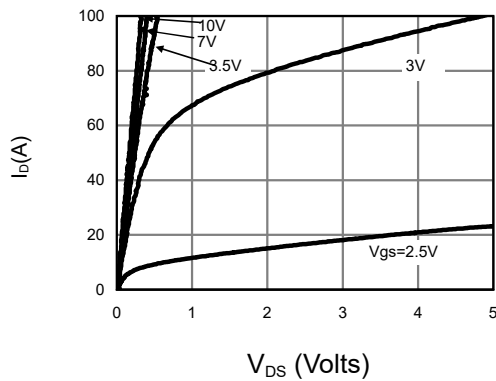

Fig 1: On-Region Characteristics (Note E)
- E. The static characteristics in Figures 1 to 6 are obtained using $<300\mu\text{s}$ pulses, duty cycle 0.5% max.